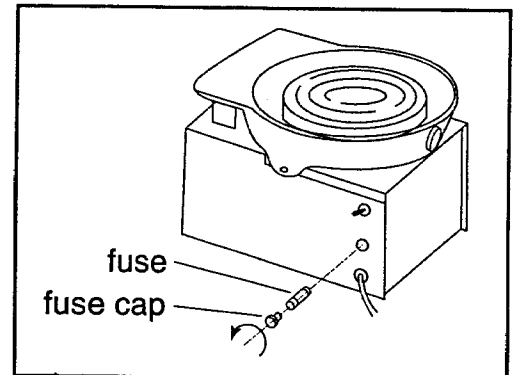

Figure 4
3. Insert flat head screwdriver into slot on fuse cap and unscrew (figure 4).